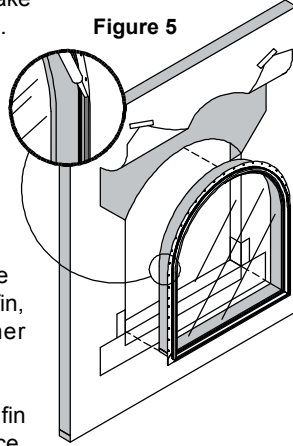

Figure 5
**SHIMMING:** Sill shims are to be applied at each jamb and any mullis on multiple wide units. Units wider than 24" must also be shimmed at the center of the sill (fig. 5)
Apply a continuous bead of sealant, approximately 3/8" in diameter, to the back of the mounting flange and in line with the mounting holes. Alternatively, sealant can also be applied to the R.O. to line up with the holes on the mounting flange (fig. 5).